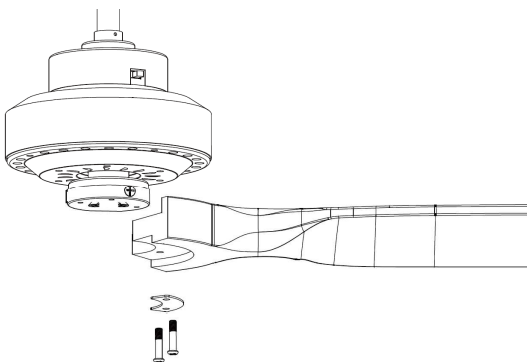

Fig. 5
- Insert the blade screws through the blade bracket and place on the underside of the blade. (Fig. 5)